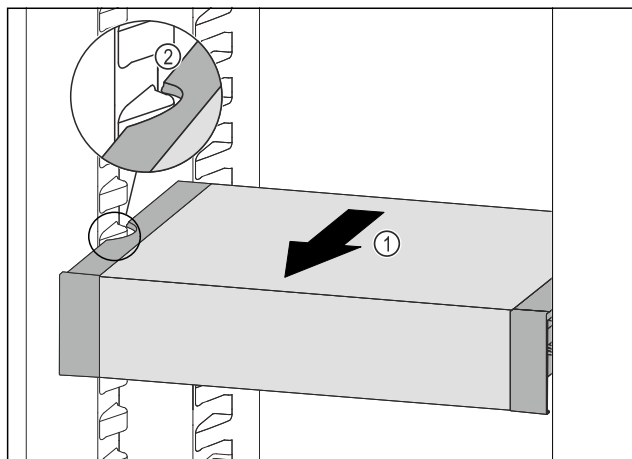

Fig. 151
- Pull VarioSafe forwards Fig. 151 (1) until the recesses in the side of the VarioSafe are at the level of the support rib in the fridge section. Fig. 151 (2)